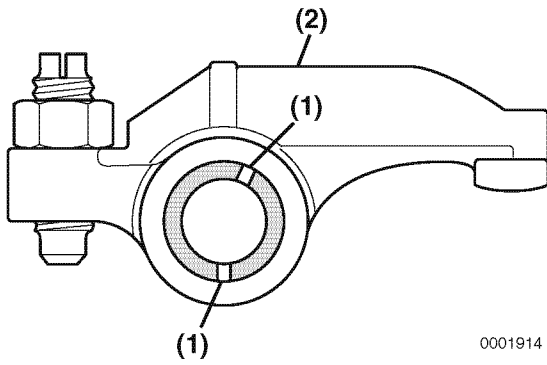

Figure 6-31
Ensure the lubrication holes in the rocker arm shaft (Figure 6-31, (1)) are oriented correctly with respect to the rocker arms (Figure 6-31, (2)).